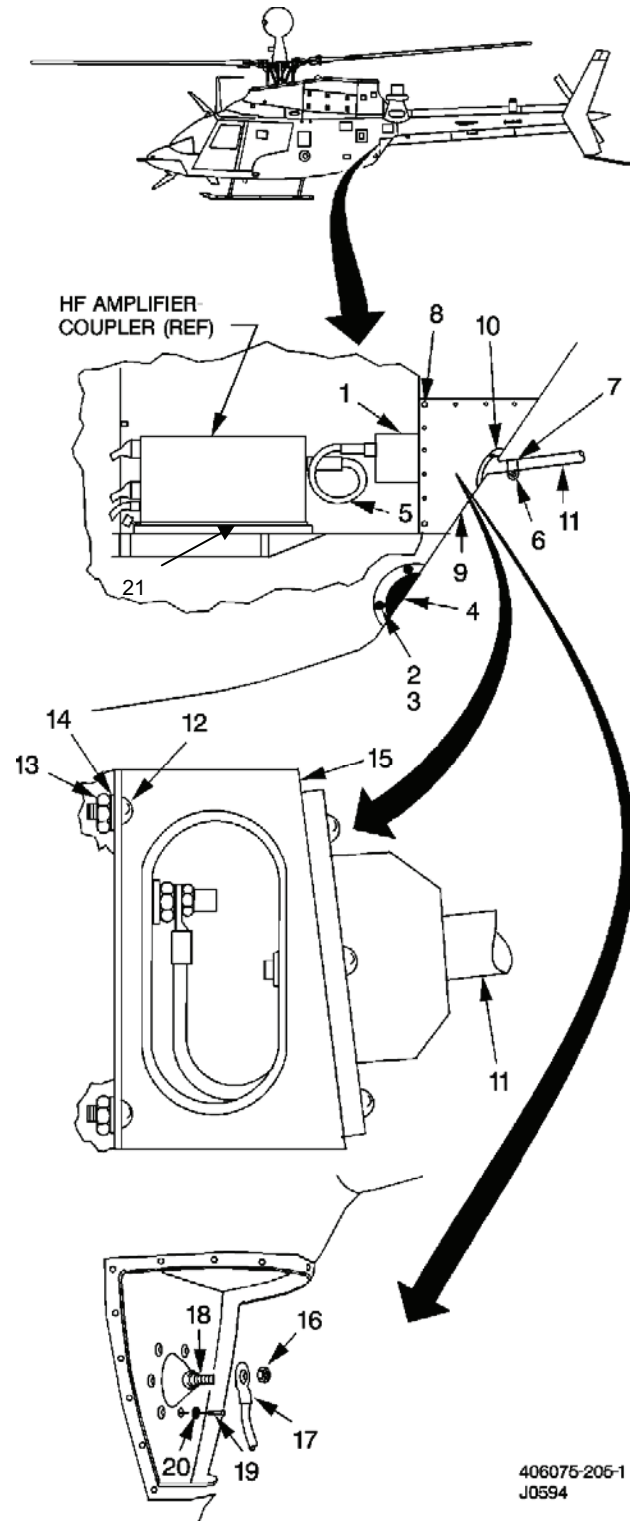

Figure 4
(17) Prime using MIL-PRF-23377 epoxy primer and paint the cover plate.
(18) Install the cover plate using the existing screws onto access panel (7).
d. Removal of HF-Antenna Coupler. (If installed.) (See Figure 4.)
(1) Gain access to HF antenna coupler (1) by removing four screws (2), washers (3), and exhaust port screen (4).
(2) Disconnect RF cable (5) from HF antenna coupler (1).
(3) Remove four screws (12), nuts (13), and washers (14) from bracket (15).
(4) Remove jamnut (16) and jumper assembly terminal (17) from stud (18).
(5) Support HF antenna coupler (1) and remove six mounting screws (19) and washers (20).
(6) Open aft electrical compartment door and remove HF antenna coupler (1).
e. Removal of the HF - Amplifier Coupler Mounting Rack. (See Figure 4.)
(1) Gain access to the aft electronics bay.
(2) Remove screws attaching the mounting rack (21) to the airframe structure.